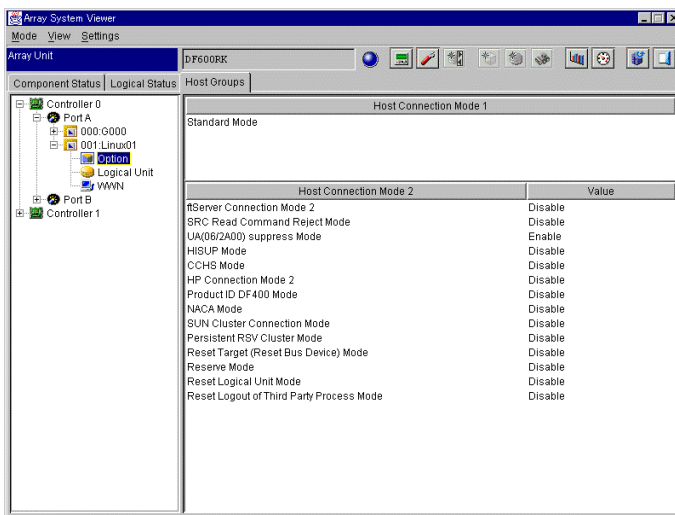

**Figure 3.7** Setting a Host Connection Mode
2. Specify **Host Connection Mode 1** and **Host Connection Mode 2**, and click the **OK** button (see Figure 3.7).